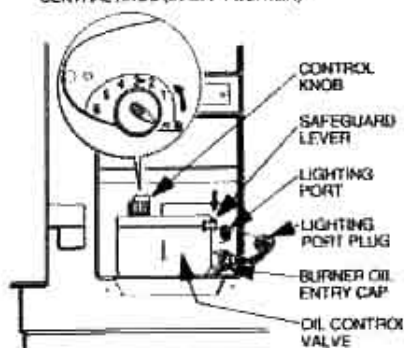

Fig. 4
7. Remove the lighting plug (See Fig. 4) and insert the asbestos tip of the kindler into the lighting port. Push kindler down until it strikes the bottom of the pot.